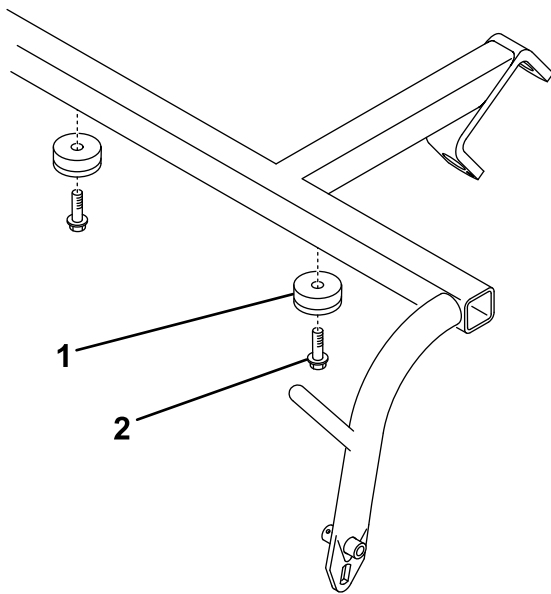

Figure 3
5. Secure 2 bumpers to the underside of the pull frame using 2 self tapping screws (Figure 3).